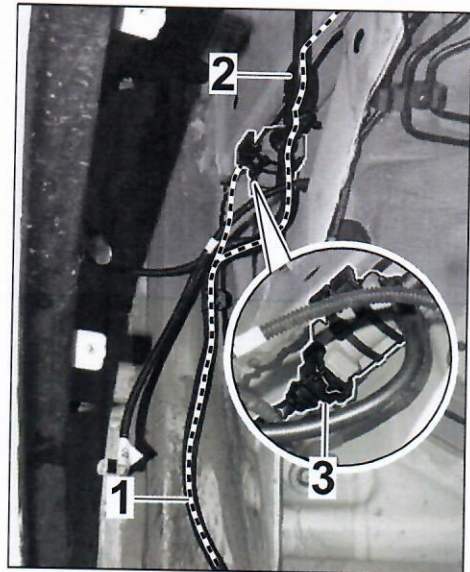

Figure 23
- 4.1.1 Push connector ⇒ *Figure 23 -3-* onto control valve.
- 4.1.2 Route long line end ⇒ *Figure 23 -1-* along the control line for the wheel housing and secure with tie-wraps.